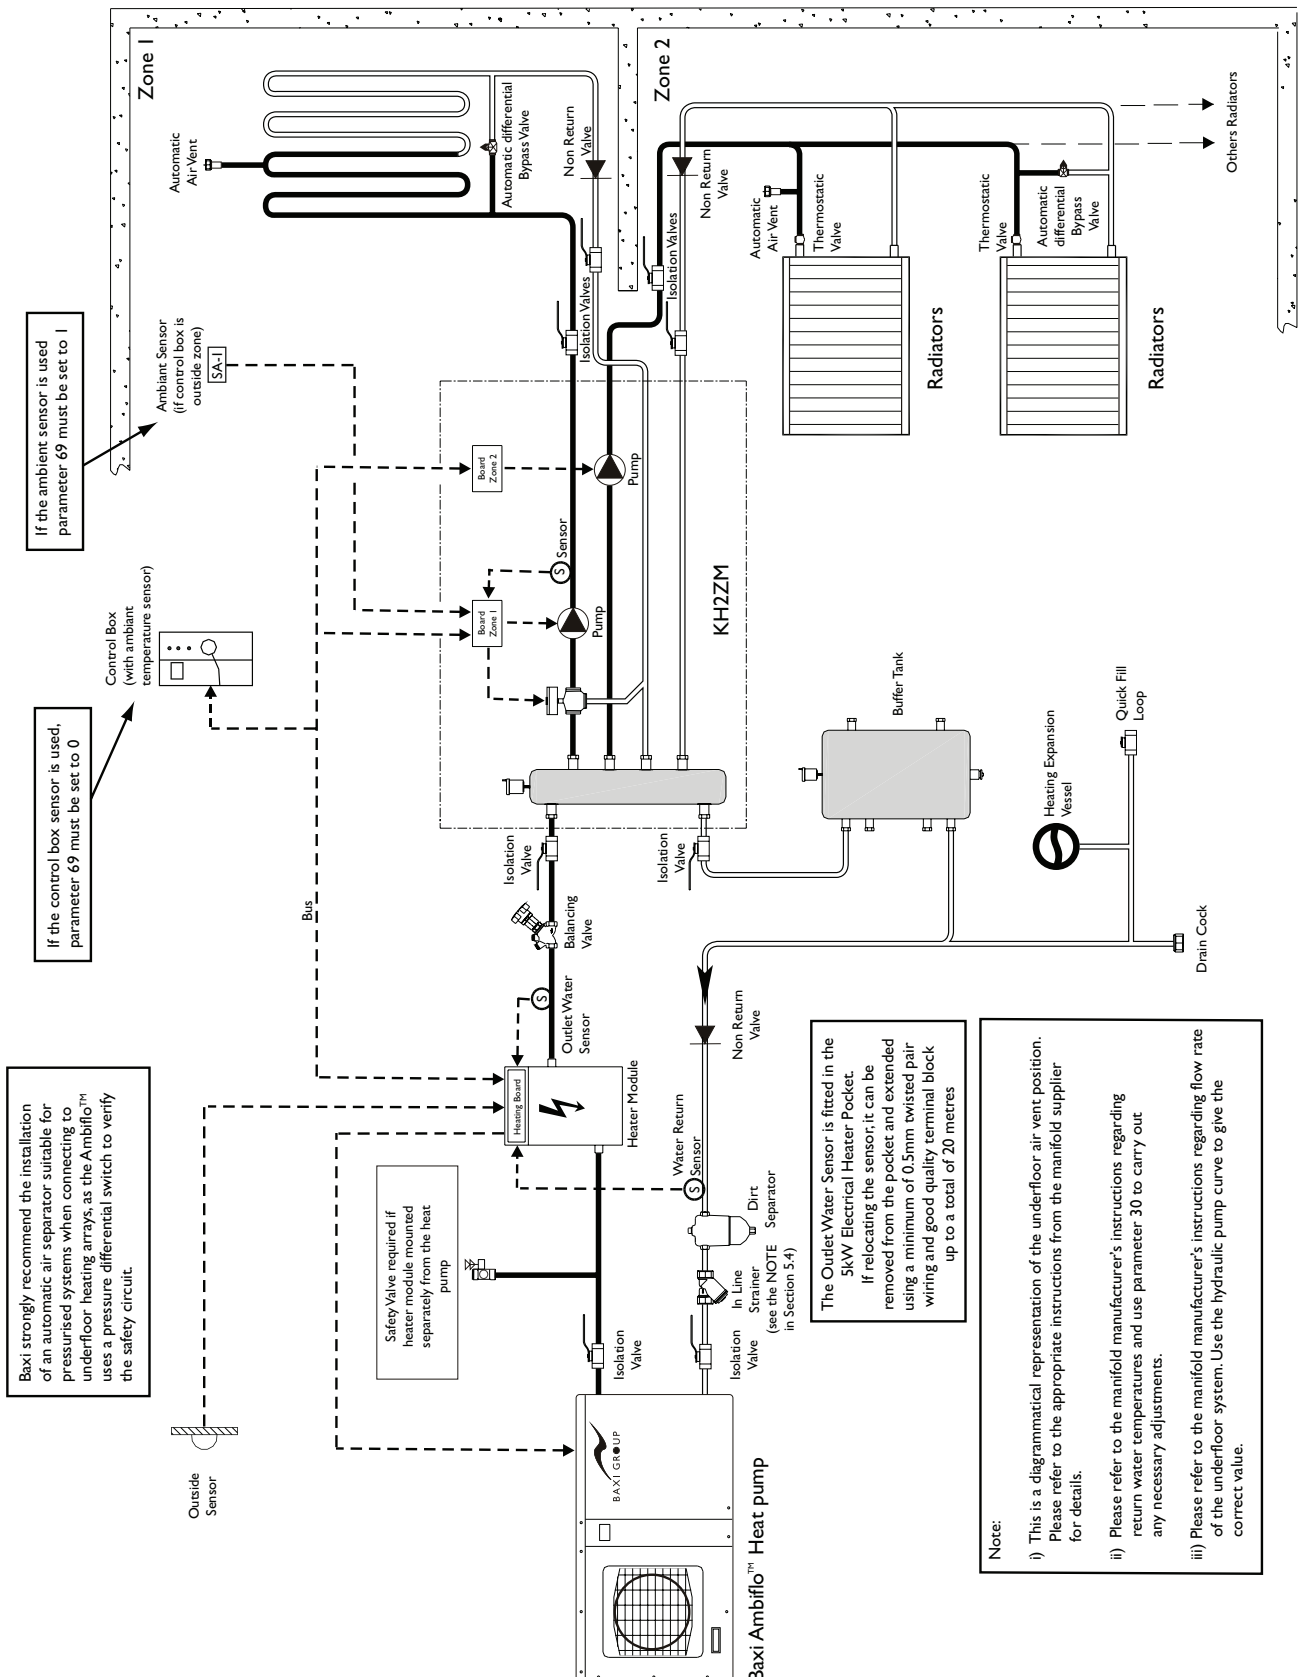

Fig. 6
15. A Dirt Separator is available as an accessory for this unit. This must be fitted on any water circuit where radiators are used. Please refer to Figs. 6 and 7 (Section 3.5 and 3.6) for details. Failure to fit this filter will affect your warranty.
3. Where radiators are used, the dirt separator must be fitted as shown in the hydraulic system diagrams (see Figs. 6 and 7 for relevant system). Failure to do this will affect your warranty. Where the Baxi Ambiflo™ Heat Pump is fitted to an existing system it is essential to power flush the system prior to installing the unit and fitting the dirt separator.